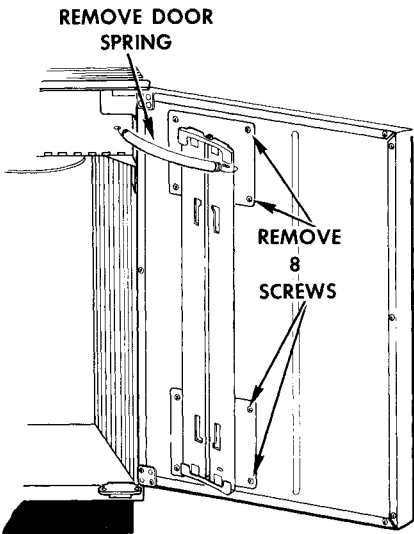

Figure 3 - Removing Container Support.
The complete support may be removed from the door as follows: (See Figure 3).
8. Reinstall in door as shown in Figure 3.